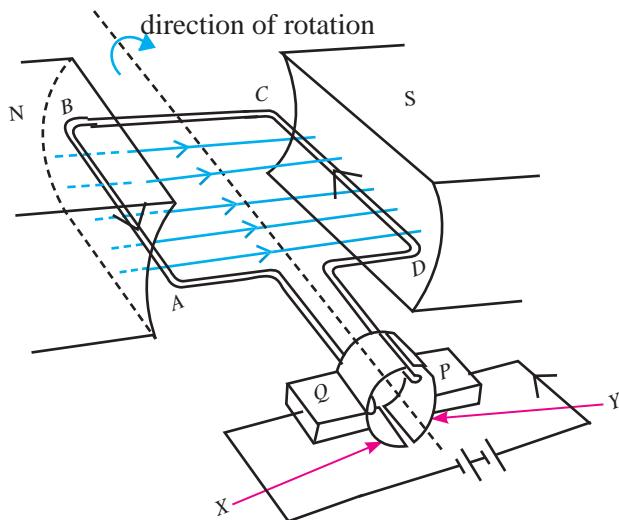

Figure 13.22 – Modeling the operation of a DC motor
- Let us now consider what happens when the coil and the two split rings have rotated by 180° and their positions are inverted. This position is shown in Figure 13.22.